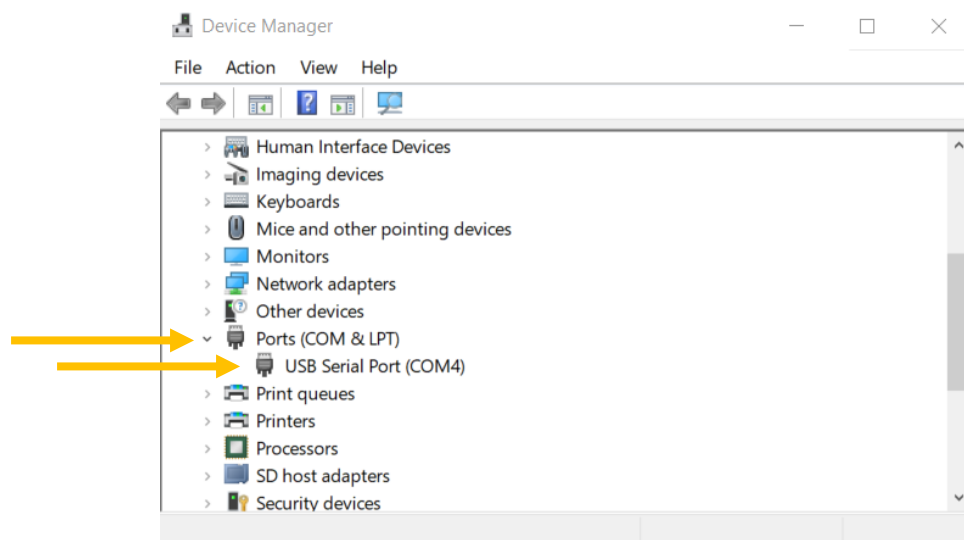
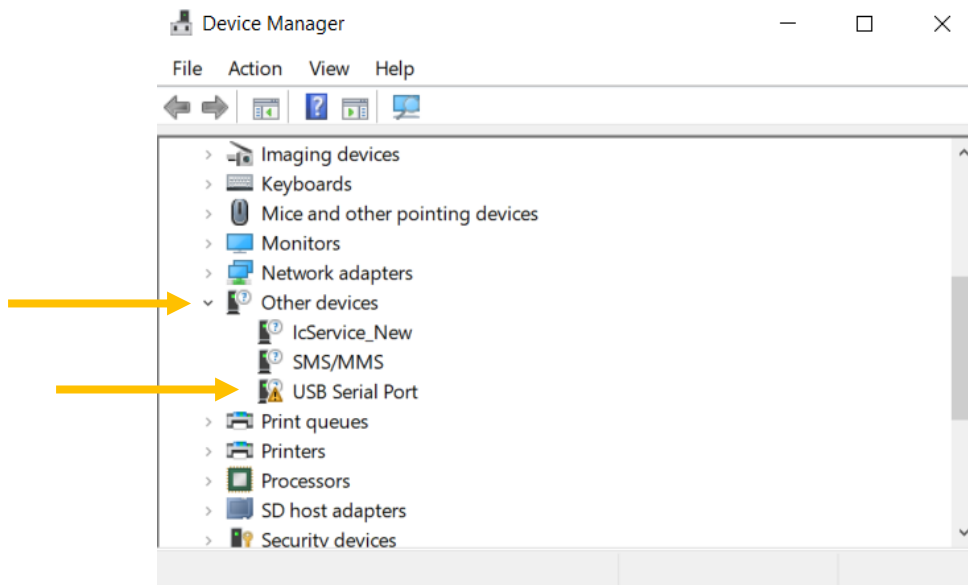

Figure 17: How it should be: Device Manager recognized device correctly as USB Serial Port (COM...) in Ports (COM & LPT).
Figure 18: How it is: Device Manager recognized device as USB Serial Port in Other devices.
- b. Check if the table contains *Ports (COM & LPT)* (see Figure 17). If it does, check if one of the listed USB serial ports belongs to your device. Simply unplug the device and check if any listed USB device disappears (you may re-enter that list to make it update). In case the device shows up in *Other Devices* instead of *Ports (COM & LPT)* (see Figure 18), the operating system (i.e. Windows) hasn't recognized it yet. In this case it unfortunately can take up to a few minutes until it gets recognized correctly as a COM & LPT. Plugging it into a different USB port may help as well.